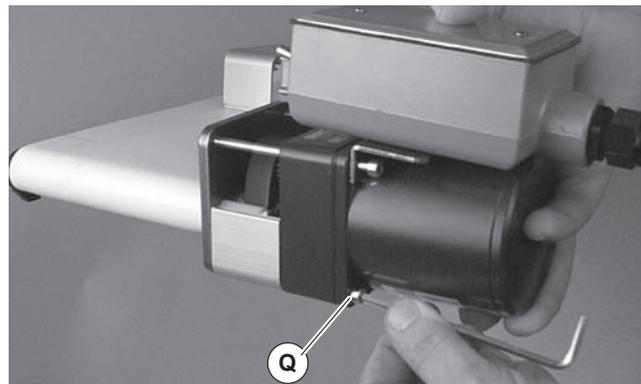

Figure 7
- Insert gearmotor drive pulley into timing belt. Mount assembly with two (2) bottom screws (Figure 7, item Q). Tighten to 45 in-lb (5 Nm).